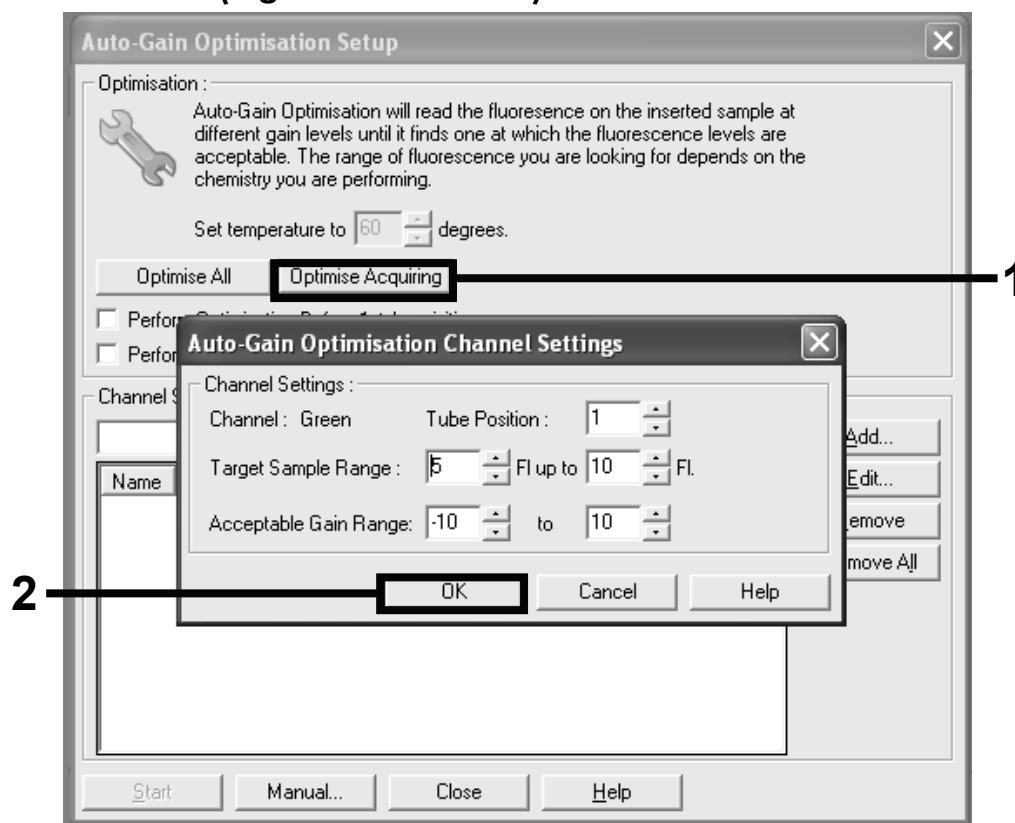

Figure 25. Auto-Gain optimisation for the green channel.
20. Click “Optimise Acquiring” button, click “OK for both the green and yellow channels (Figures 25 and 26).